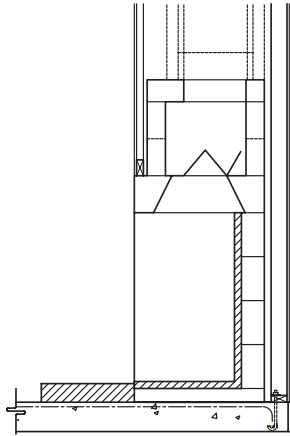

FIGURE 5
1. Slab on grade: standard residential, minimum four inch (4") thick, 2500 psi concrete foundation on properly compacted fill. This type foundation can support Isokern installations up to thirty feet (30')* overall height without additional structural support. (brick ledge installations not included) **(Figure 5)**